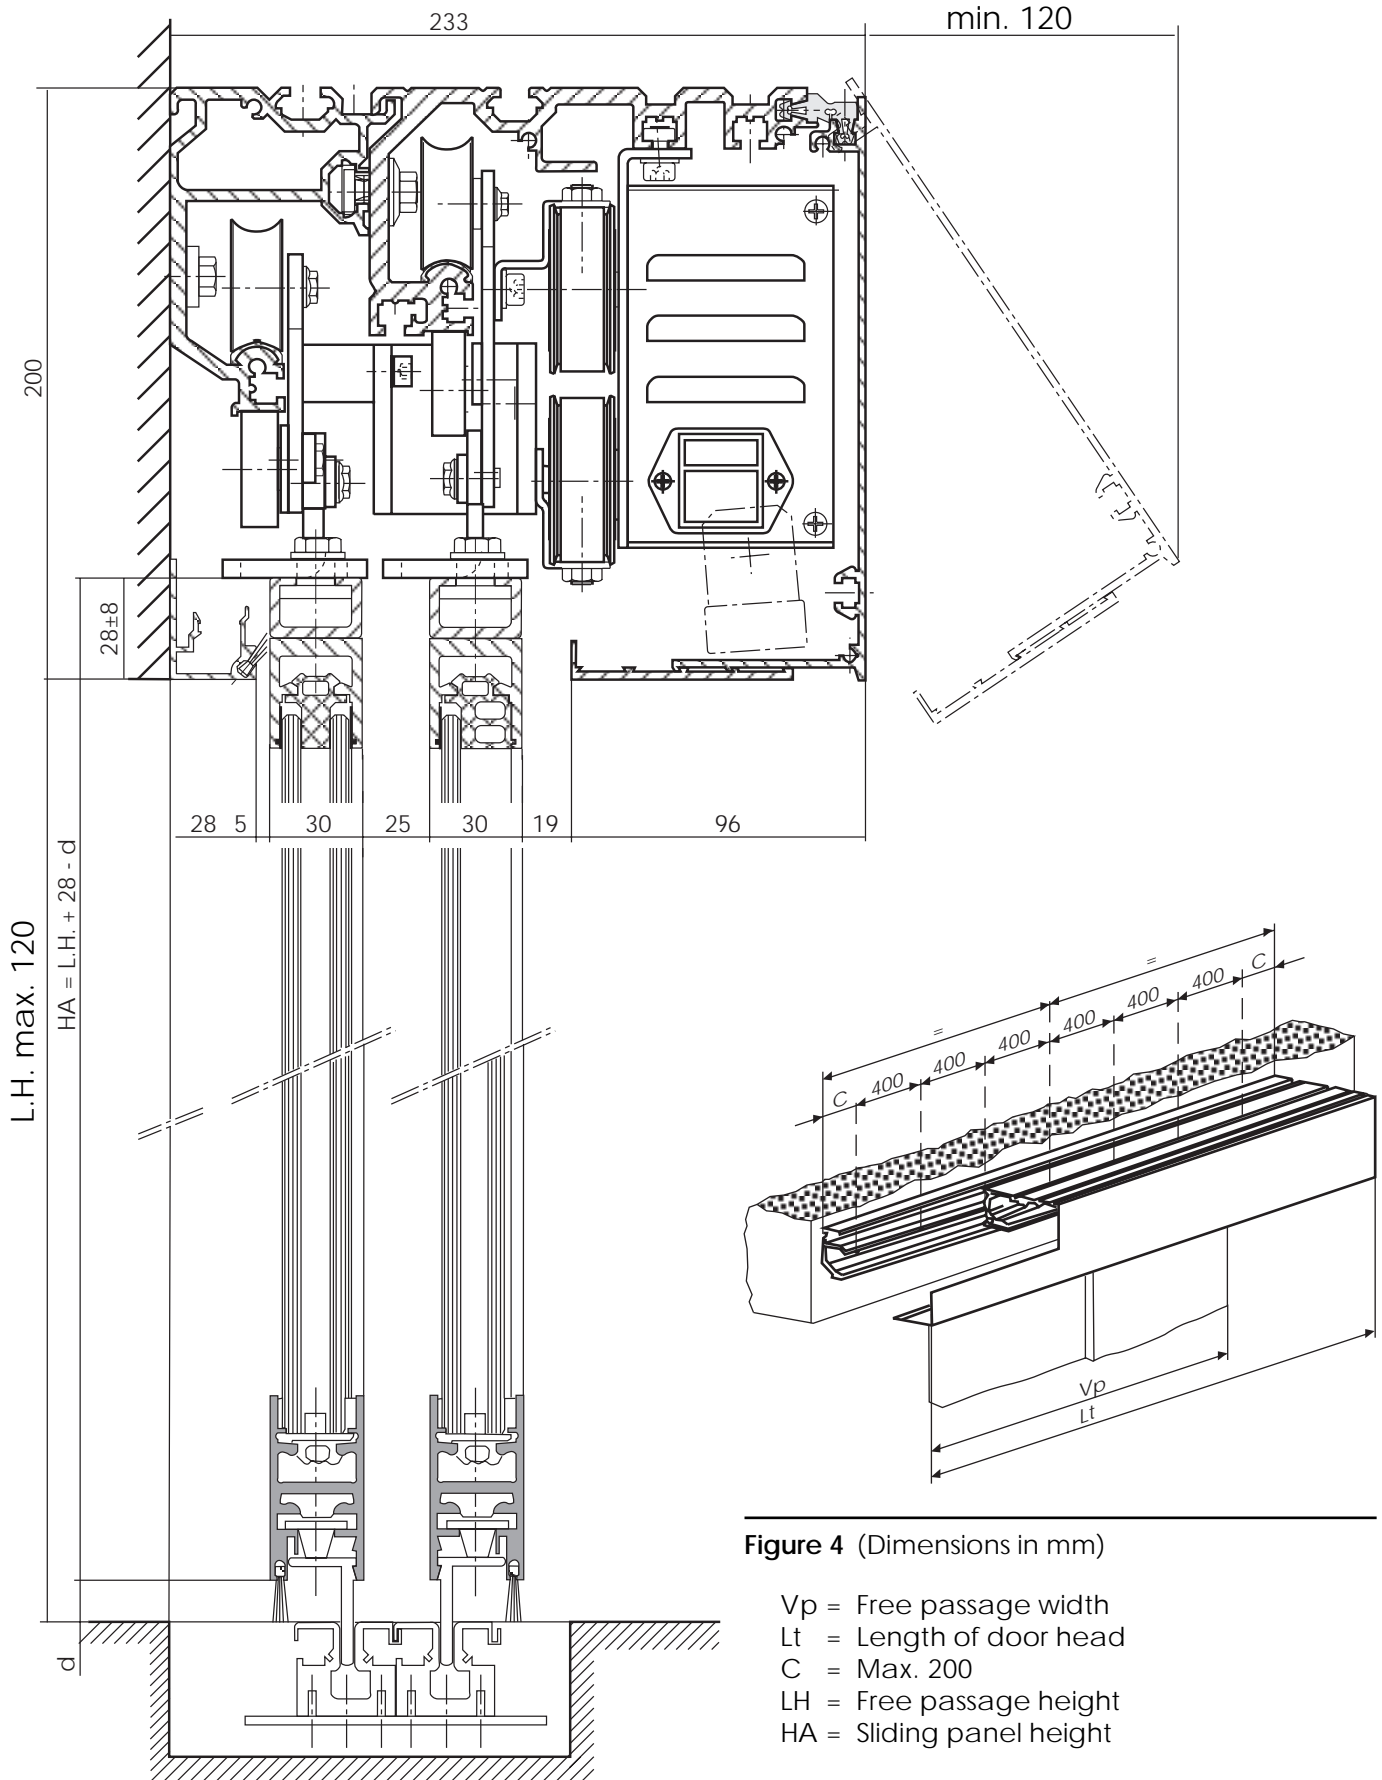

Figure 4 (Dimensions in mm)
- Fix the head using M8 screws as shown in fig. 4.